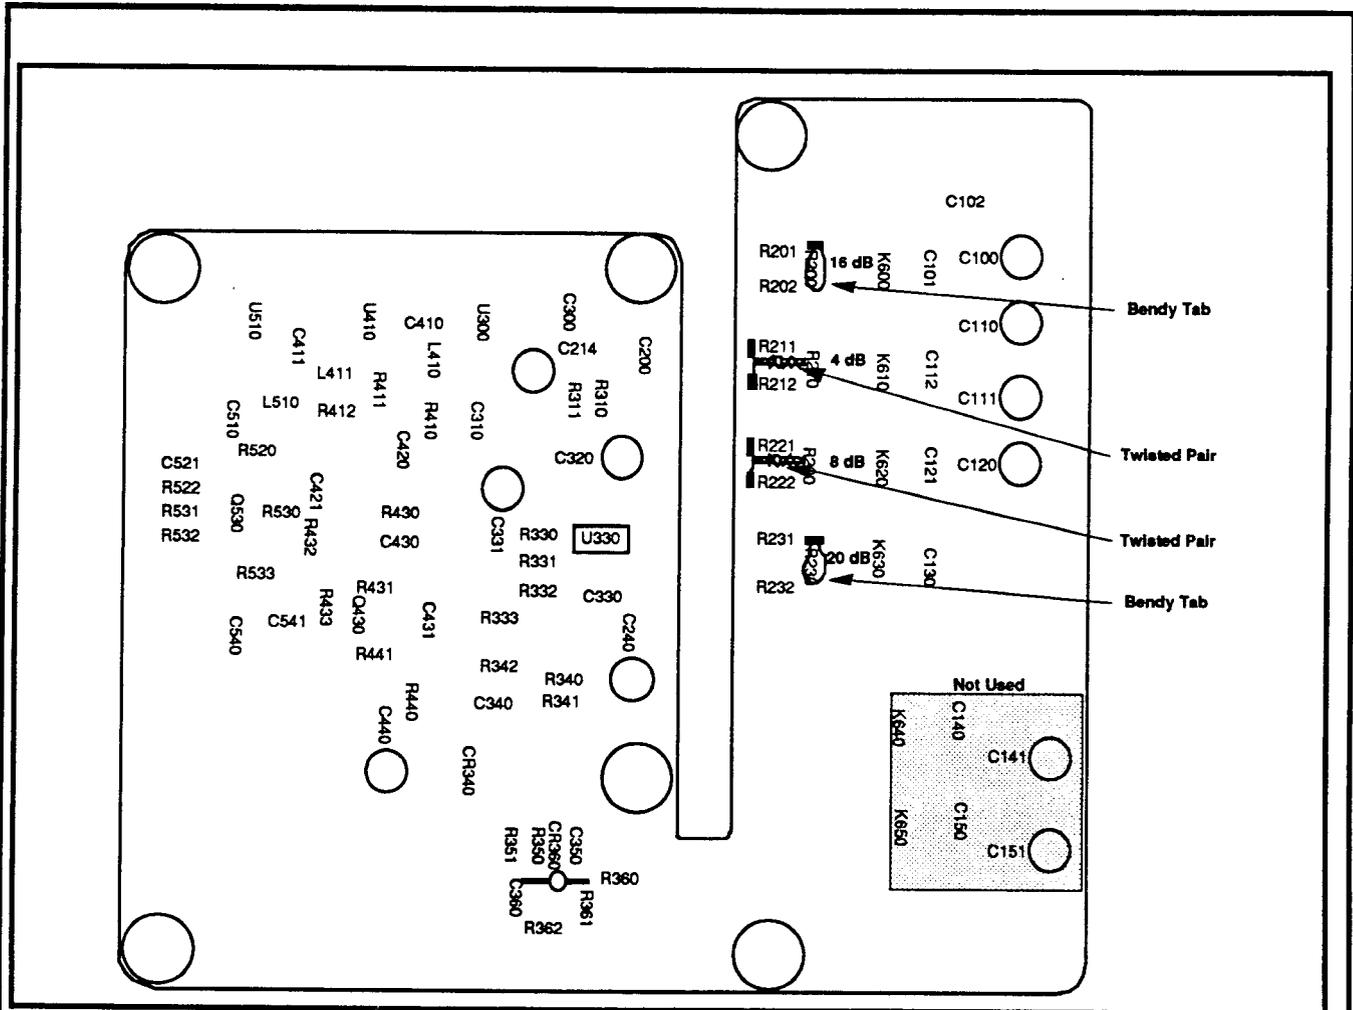

Figure 19. Twisted pairs and bendy tab locations on the Attenuator (Amplifier board).
o. If the trace is not within 1 dB of center screen, add a "bendy" tab (adjustment wire) to the attenuator pad. See Figure 19.
t. If the trace is not within 1 dB of center screen, add a bendy tab to the attenuator pad. See Figure 19.
y. If the trace is not within 1 dB of center screen, add a bendy tab to the attenuator pad. See Figure 19.
dd. If the trace is not within 1 dB of center screen, add a bendy tab to the attenuator pad. See Figure 19.